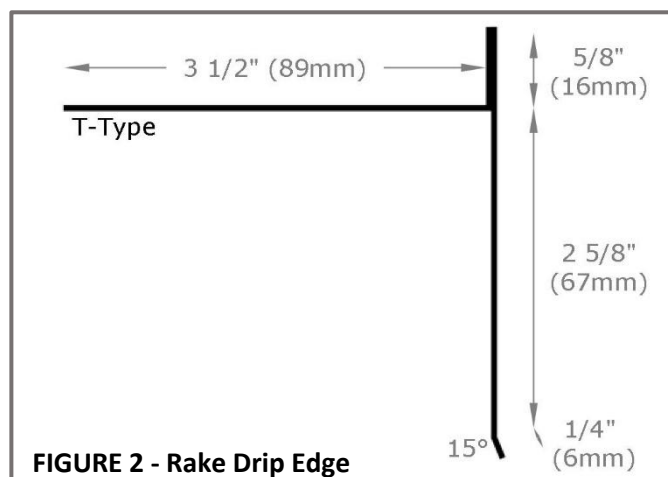

FIGURE 2 - Rake Drip Edge
- **RAKES** - F-WAVE recommends a **T-Type modified drip edge** at rakes to cover the cut edge of the shingles. Apply drip edge over underlayment at rake edges. Trim shingles **1/8" (3mm)** from T-Type drip edge. See **Figure 2**.